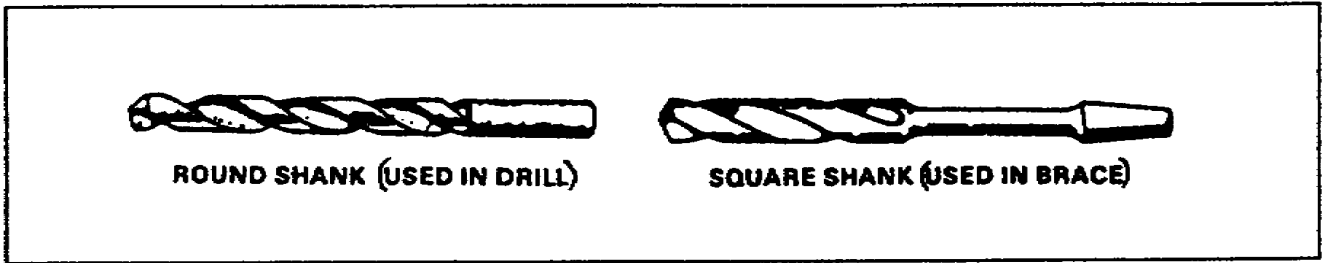
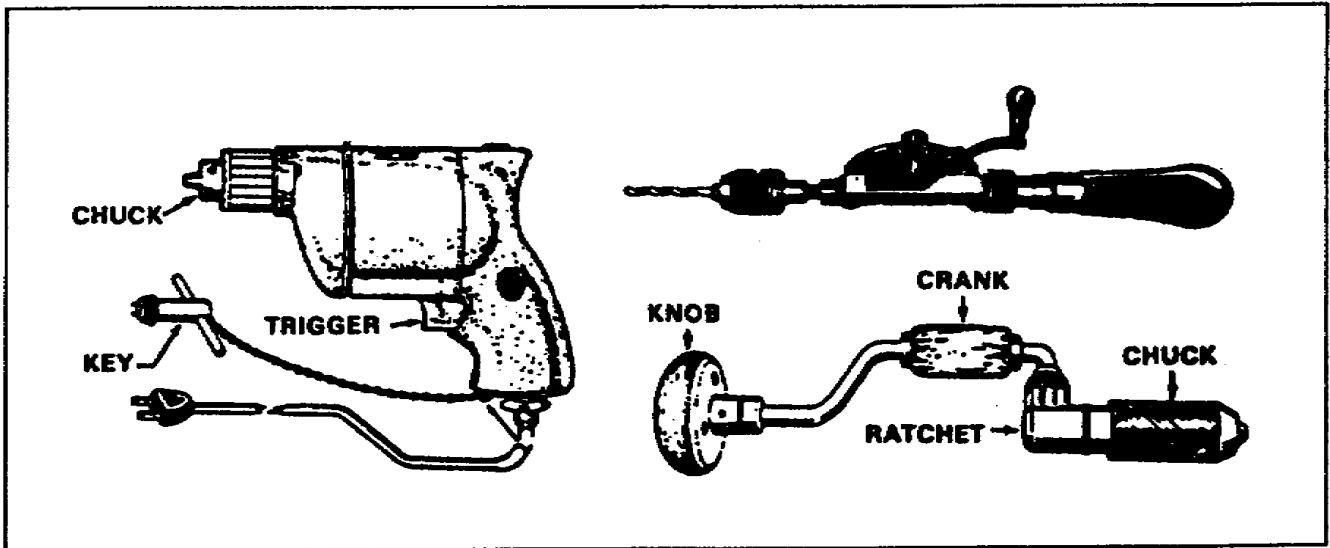

Figure 2-3. Twist drills
Figure 2-4. Electric and hand drills
(3) Twist Drill. A twist drill is used to make holes in wood, metal, fiber, plastic, and other materials. Carpenters often drill holes in metal to which some type of wood or fiber will be bolted. This requires the use of a special type of twist drill (Figure 2-3). Twist drill bits are driven by electric or hand drills (Figure 2-4).